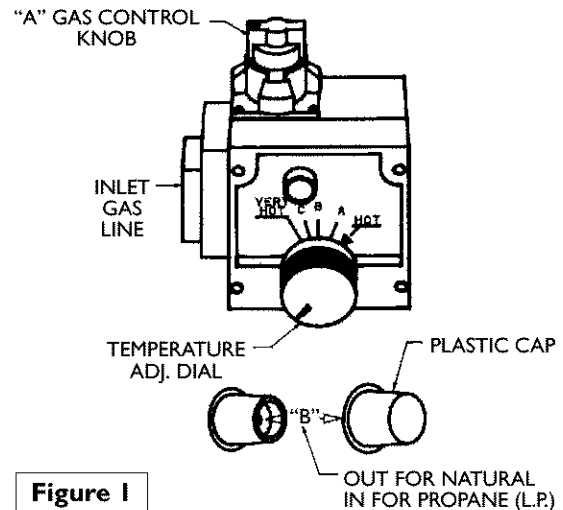

Figure 1
- Step 1. Turn gas control knob “A” to “PILOT”. Depress and turn “OFF”. (See Figure 1, page 17).
- Step 8. Place screwdriver in slot “B”. (See Figure 1, page 17). Depress and turn counter-clockwise (↺) to stop. Control screw must be in “IN” position for propane (L.P.) gas and in “OUT” position for natural gas. STOP! Read label “For Your Safety” located on your water heater.
- Step 11. Wait five (5) minutes to clear out any gas. If you then smell gas, STOP! Follow “B” in the safety information on “For Your Safety” label. If you don’t smell gas, go to the next step.
- Step 16. Make sure temperature adjustment dial is turned clockwise (↻) in its lowest position (See Figure 1, page 17).
To convert from Propane (L.P.) gas to Natural gas, follow the "Fuel" Conversion Instructions From the "Natural Gas to Propane (L.P.) Gas" section except in Step 5, use orifice "E", marked "NAT.". In Step 6 use pilot orifice "G", brass color and in Step 8 turn control screw "B" in Figure 1 clockwise (↻) to stop. Screw must be in "OUT" position for Natural gas.